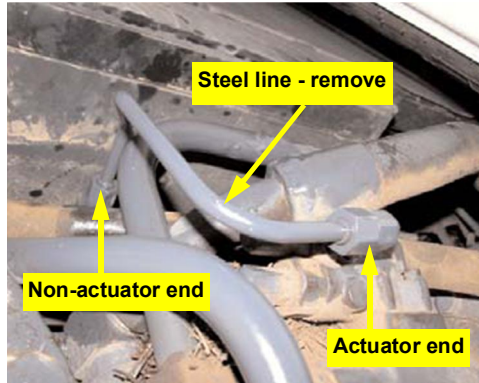

Figure 6b: Steel line and load sense actuator
- b. Locate the top hydraulic pump under the machine's cab on the right side. Locate the load sense actuator on the top of the pump with a short steel line attached to it. Remove the steel line (Figure 6b).
- c. Connect the load sense shuttle's fitting **HQ** to the fitting you disconnected the steel line from (the non-actuator end, Figures 6b and 6c).
- d. Install the hydraulic hose **HU** between load sense shuttle's center fitting **HP** and the other fitting you disconnected the steel line from (the actuator end, Figures 6b and 6c).